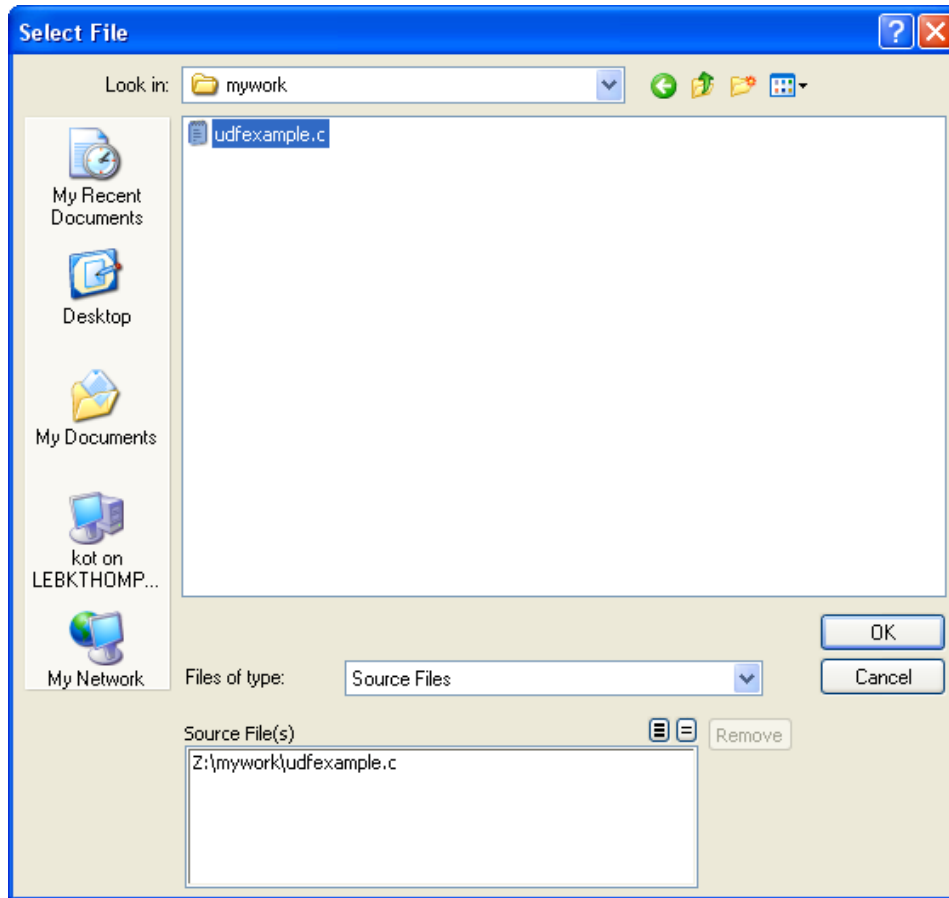

Figure 8.1.7: The Select File Dialog Box
3. Click **Add...** under **Source Files** in the **Compiled UDFs** dialog box. This will open the **Select File** dialog box (Figure 8.1.7).